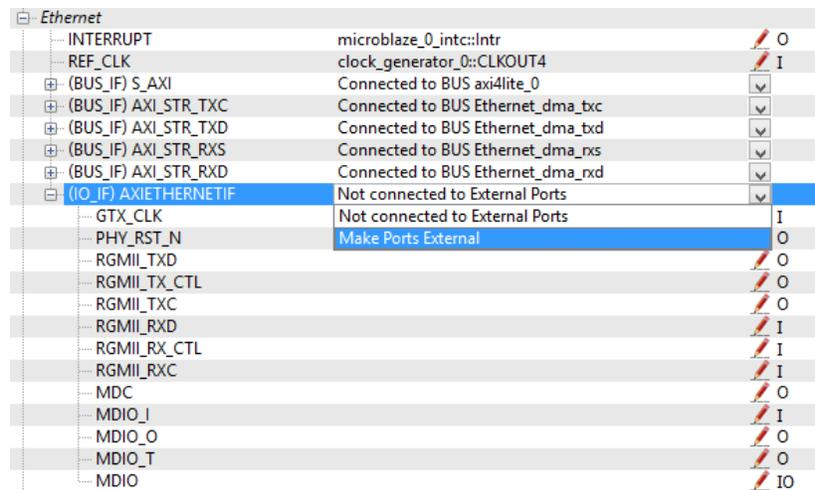

Figure 3
Step 4: In the window which appear go to Port tab and verify whether the Ethernet IOs are connected has external port. If not then connect it to external port by selecting “Make Ports External” as shown in Figure 3.